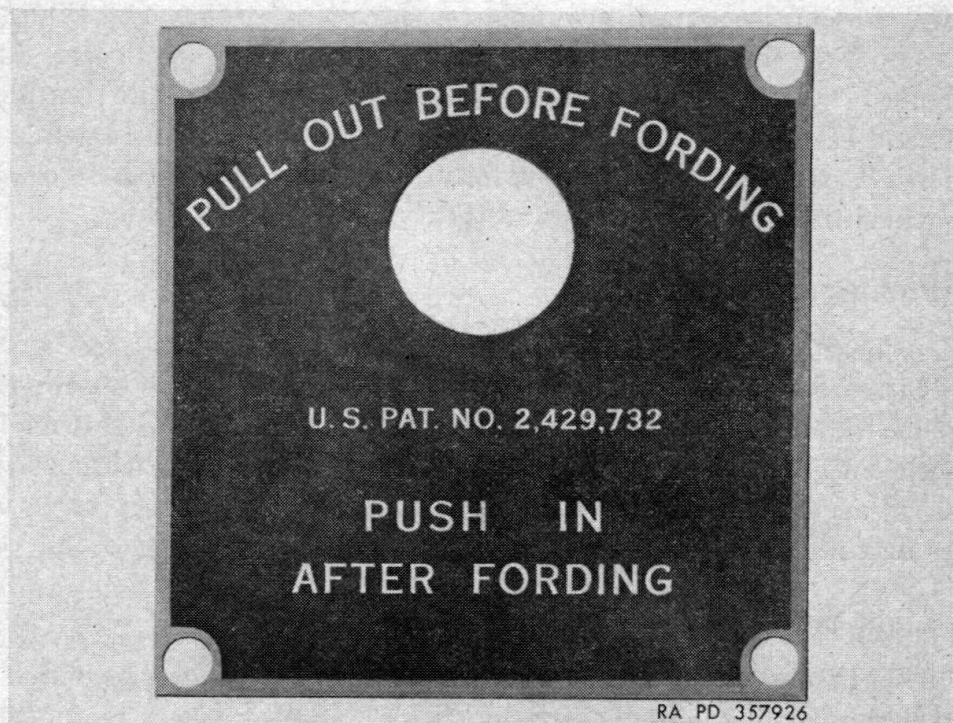

Figure 6. Fording control valve plate.
*Note.* Follow the instructions on the warning plate for the operation of this control (fig. 6).